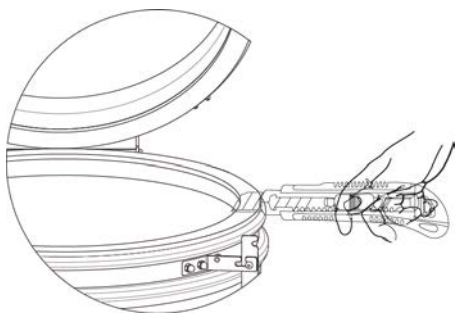

Figure 20
1. Use a box cutter to make a cross cut on the old gasket material. Pull off the loose material by hand as much as possible. (See Figure 20)